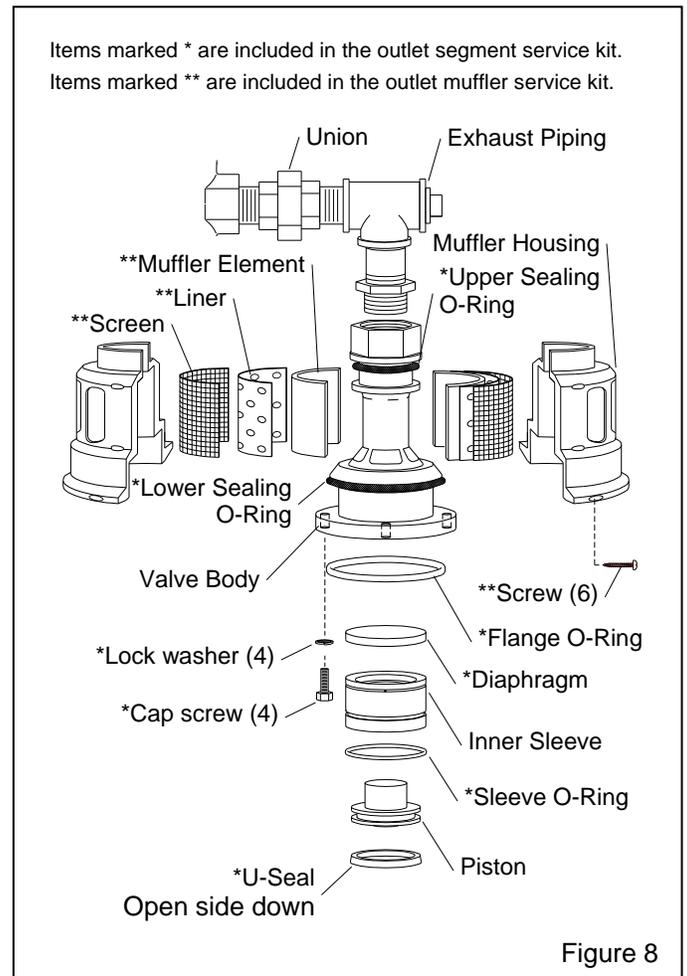

Figure 8
Ref. Figure 8**
6.4.8 Lubricate the u-seal with a silicone-based lubricant, and place the u-seal into the groove in the piston. The open side of the seal must face the bottom of the piston, as shown in Figure 8.
6.4.12 Slide the piston and sleeve assembly into the valve body, the piston faces away from the bottom of the body, as shown in Figure 8.
6.5 Exhaust Muffler, Figure 8